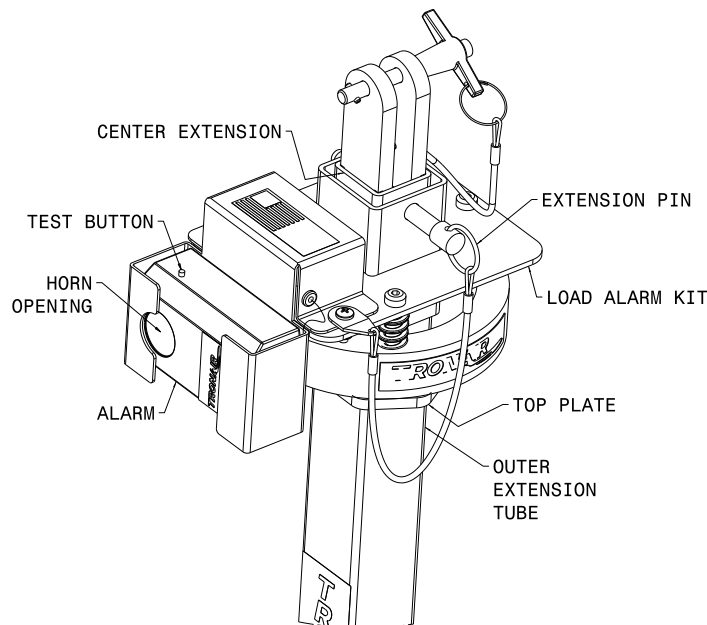

Figure 1
1. Assemble the load alarm kit over the outer extension tube. The base of the load alarm kit will rest on the stabilizing stand's top plate. (see Figure 1)
2. Assemble the center extension through the center of the load alarm kit. Pin the center extension to the desired height with the extension pin. (see figure 1)
1. Depress test button on alarm to test battery is installation. (see Figure 1)